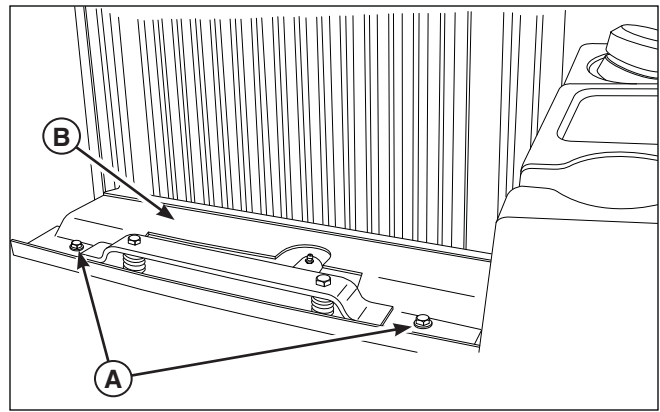

Figure 57. Remove the Pump Drive Belt Guard
2. Remove the hardware (A, Figure 57) that secures the pump guard plate (B) to the frame. Remove the pump guard plate from the machine.
11. Reinstall the pump guard plate (B, Figure 57) and secure in place using the pump plate hardware (A).